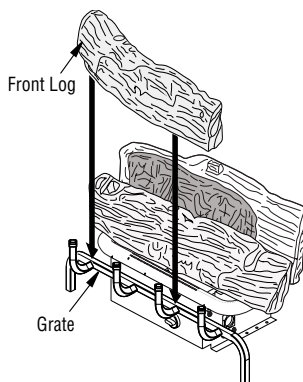

Figure 19 - Installing Front Log
3. Place front log onto grate as shown in **Figure 19**. Front log has cut outs for the fingers of the grate to fit into.